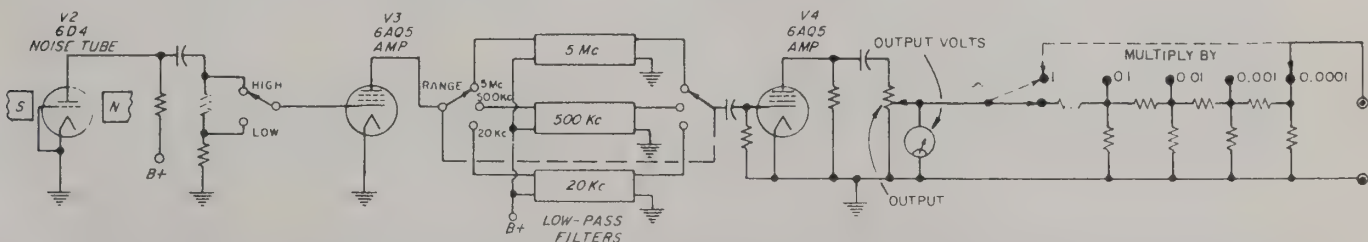

Figure 2. Elementary Circuit Diagram.
2.1 GENERAL. (See Figure 2.) The Type 1390-B Random-Noise Generator uses a gas-discharge tube as its noise source. A transverse magnetic field is applied to the tube to eliminate the oscillations usually associated with a gas discharge and to increase the noise level at high frequencies¹. The noise output from the gas tube is amplified in a two-stage amplifier. Between the first and second stages the noise spectrum is shaped in one of three different ways, depending on the setting of the RANGE switch. At the 20-kc position, a low-pass filter is inserted, which has a gradual roll-off above 30 kc, with the audio range to 20 kc uniform in spectrum level. At the 500-kc setting, a low-pass filter is inserted, which rolls off above 500 kc. At the 5-Mc setting, a peaking network is used. This network approximately compensates for the drop in noise output from the gas tube at high frequencies, so that a reasonably good spectrum is obtainable to 5 Mc.